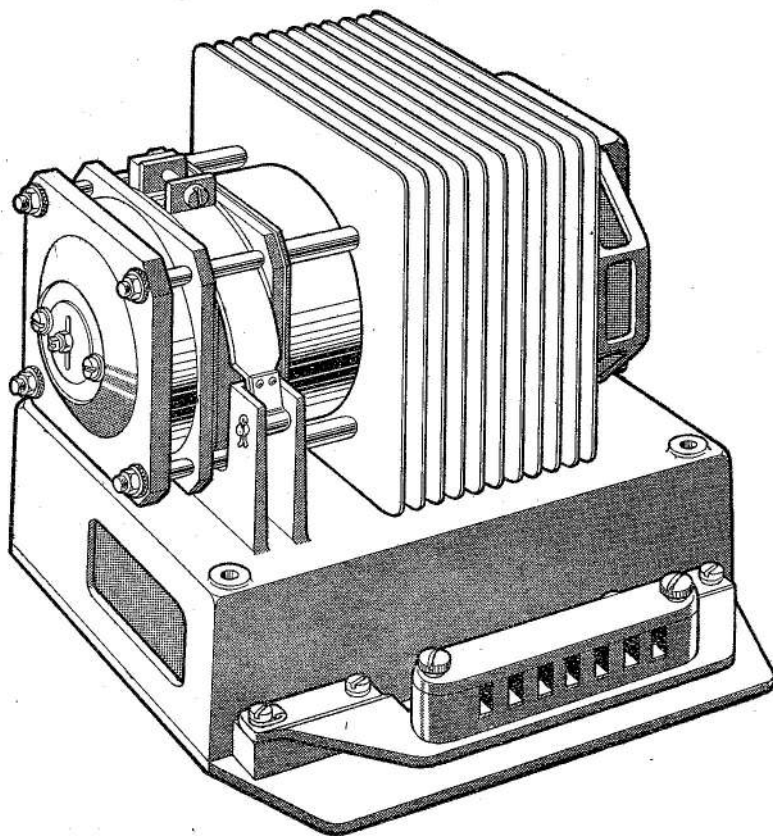

Fig. 1. Voltage regulator Type 23/47848E
2. The regulator (fig. 1) is of the carbon pile type and in general construction and principle of operation is similar to the standard design described in A.P.113D-0003-16 (formerly A.P.4343, Vol 1, Sect. 6, Chap. 1). The regulator incorporates a carbon pile 2 $\frac{3}{8}$ in. long made up of not less than fifteen 3 mm washers interleaved with twenty-eight 1 mm washers assembled two and one.